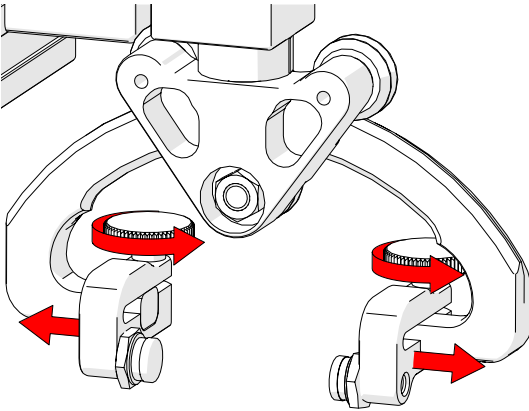

Fig. 45 - Loosen knobs and move arms
4. Loosen the two probe holder arm adjustment knobs and move the arms apart to create space for the probe (Fig. 45).